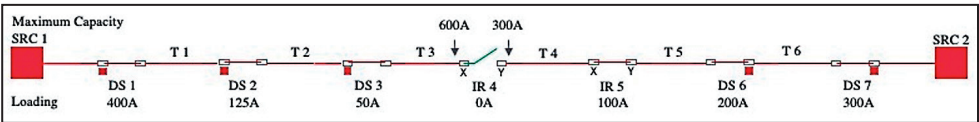

Figure 8. Reducing the maximum capacity for team T4.
- (b) Artificially reduce the capacity of the normally open tie switch in the direction where load will be restored for a particular circuit event. Set the **Maximum Capacity** setting in the team member of the team on the side of the tie switch where the tie switch will be closing to pick up load. This can be set separately for the teams on both sides of the tie switch. See Figure 8.